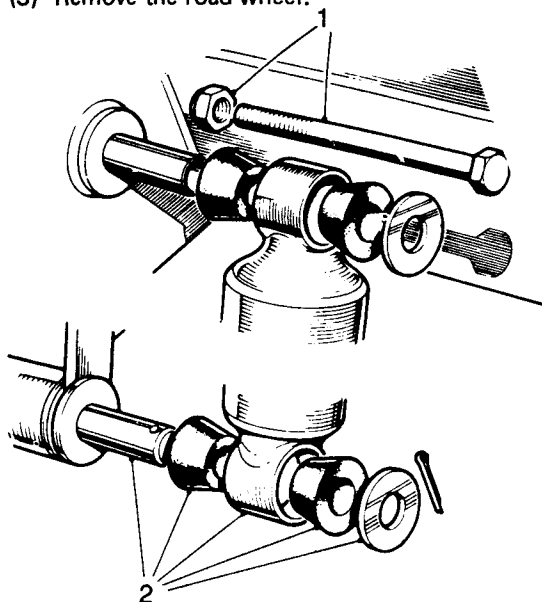

Fig 14.6
- (4) Refer to Fig 14.6. Remove the shock absorber top fixings (1).
- (5) Remove the lower fixings (2).
- (6) Remove the shock absorber.